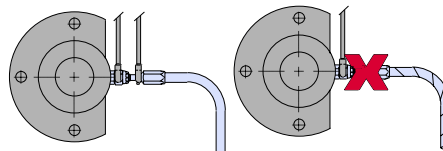

Fig. 5
11. When connecting hose adapters to port adapters, tighten by hand first. Then tighten using two wrenches, one on the hose adapter and one on the port adapter, to prevent twisting of the hose, see Fig. 5.